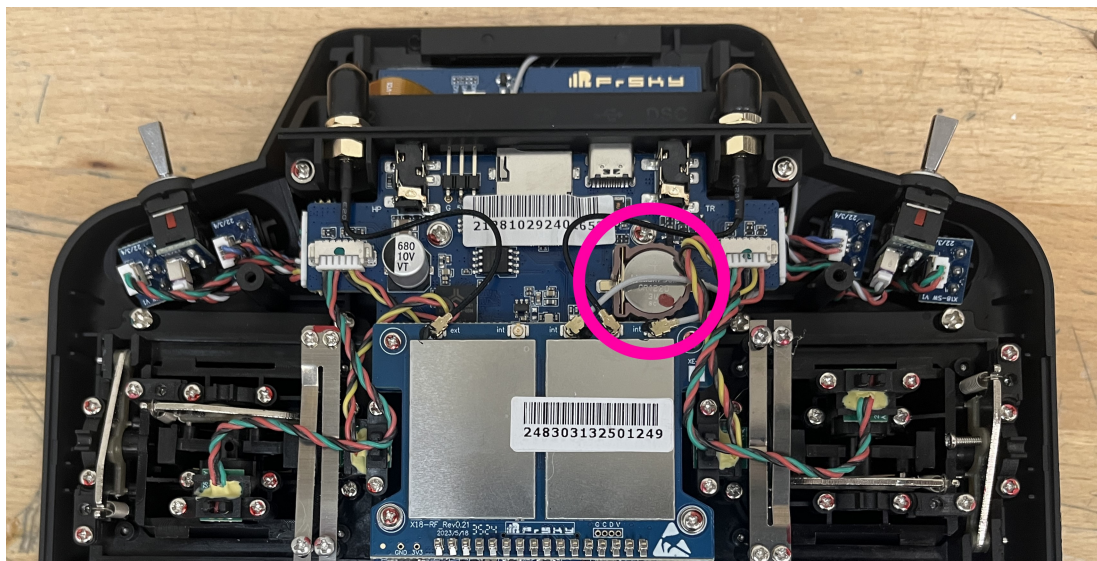

Figure 62: RCU RTC Location
6. Locate the RTC battery(circled in Figure 62) and remove it.